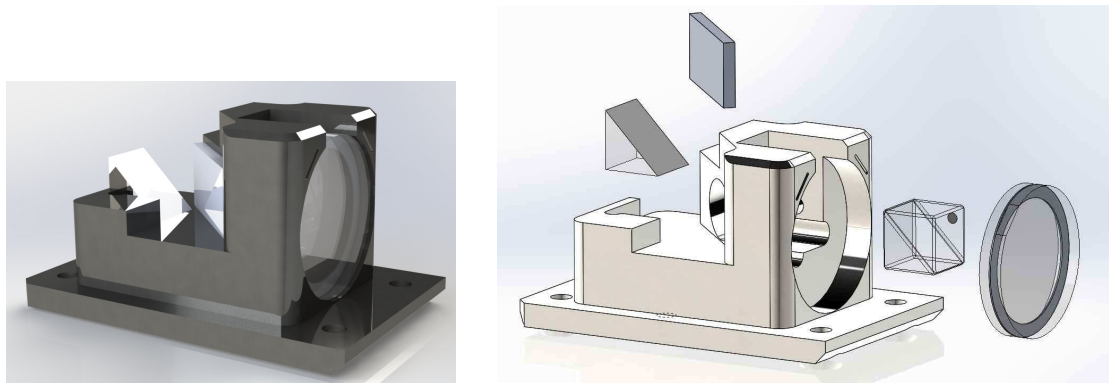

Figure 2.3: Exploded view of the Optics Insert
8. There is a dot on one side. Hold the beam splitter by the non reflective sides. Put glue on the side and bottom of the square opening of the insert. Align the dot according to Figure 2.3.